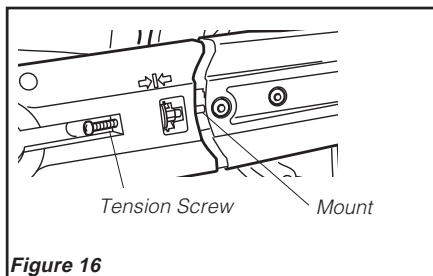

Figure 16
2. Back off tension screw another 4-5 turns so that adequate clearance is achieved where the tension screw contacts the mount when the mount is turned over. See Figure 16.